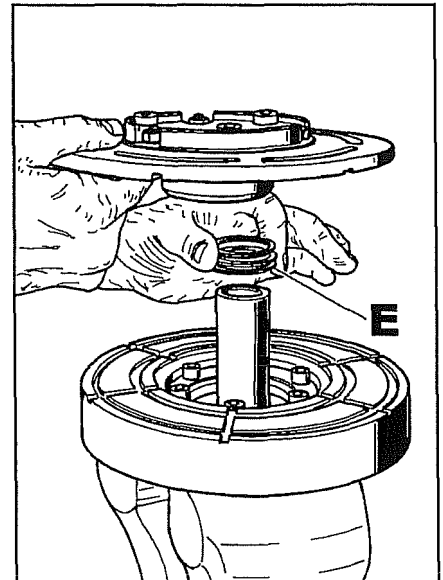
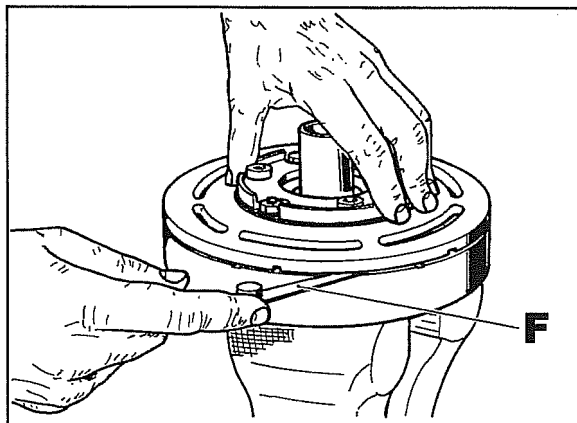

Fig. 15
Fig. 16
- Use a pipe suitable for the bearings, clamp it in the vice and then assemble everything as shown in fig. 15. Use the spacer washers removed previously
- Use feeler gauge **F** fig. 16 to measure the gap between the two disks. The gap should be 0,6 mm. Use spacer washers **E** fig. 15 to adjust the gap up or down.